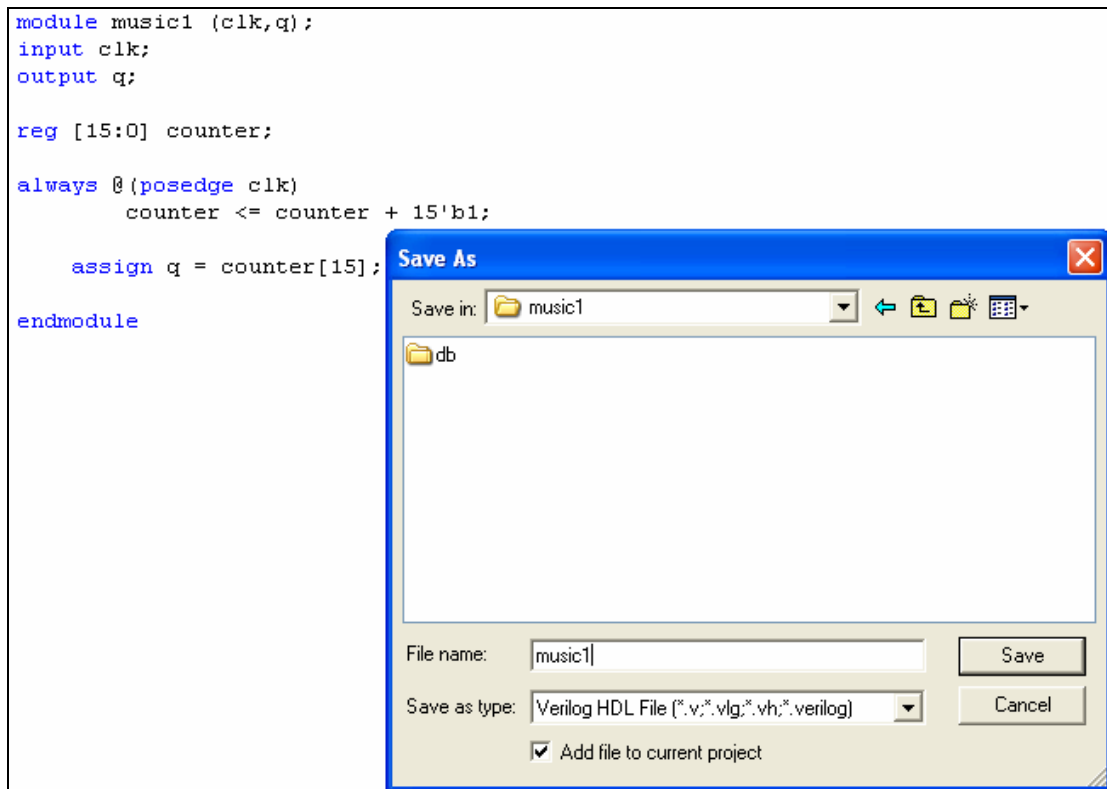

Figure 3.6: Save as popup window.
9. Save the VERILOG file. Make sure that the Add file to current project is checked. Refer to Figure 3.6.